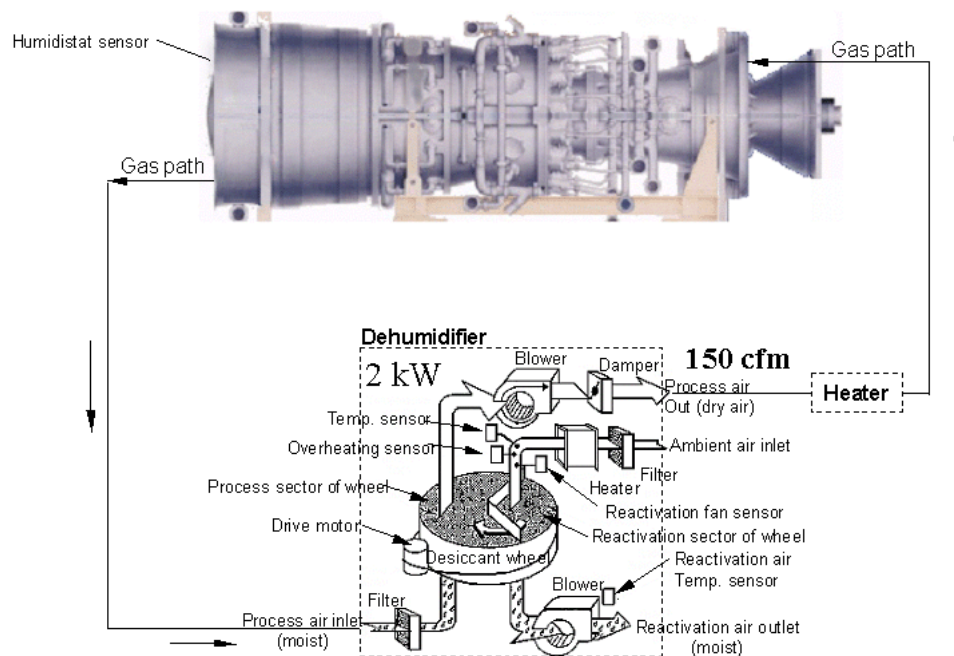

Figure 1. Closed Loop Humidity Control
2. Provide closed loop air circulation through the machine whereby the circulated air is maintained at low humidity and above the dew point temperature. The airflow will circulate from the GT Inlet to the GT Exhaust. The air will be filtered, dehumidified and electrically heated (if required) (Ref Figure 1). If the dehumidifier system decreases the temperature of the circulated air, a heater must be provided to maintain the internal air temperature within 10 degrees of ambient. The relative humidity of the closed loop system must be kept lower than 30% at all times the unit is in storage. Each unit will have a dedicated dehumidifier. The flow rate will be in the range of 150-300 cfm. All VCI paper should be removed before operation of the closed loop system. It is essential that there are minimal leakages in the closed loop system. The tarp should be tightened around the unit, since the tarp is open at the bottom. The inlet and exhaust should be sealed in order to minimize the amount of outside air leakage. The quality of the dehumidified air will be sacrificed if leakages occur in the closed loop system.